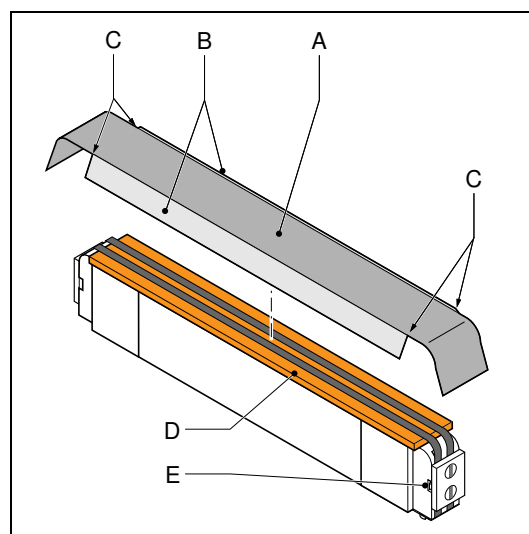

Fig. 8-9: Fitting a new teflon lining
1. Fit new hard glass fibre strips to the seal beam (Fig. 8-9) if necessary.
2. Position the new wires (B) behind one of the mounting plates (C) and ensure that the ends of the wires are level with the bottom side of the mounting plate. Now tighten the screws (D).
5. Tighten the wires as tightly as possible with a pair of pliers (A) and secure the mounting plate by tightening the screws (D).
2. Remove the teflon lining that is stuck to the beam (Fig. 8-9).
3. Unscrew the screws (D) at both ends of the seal beam.
5. Fit new glass fibre strips (A) to the seal beam (Fig. 8-9) if necessary.
6. Position the new wires (B) at one end of the seal beam, place plates (C) and tighten the screws (D).
9. Tighten the wires as tightly as possible with the "Wire Tension Tool" (E) and secure the mounting plate (C) by tightening the screws (D)
Fitting a new teflon lining to the seal beam as follows (Fig. 8-9):